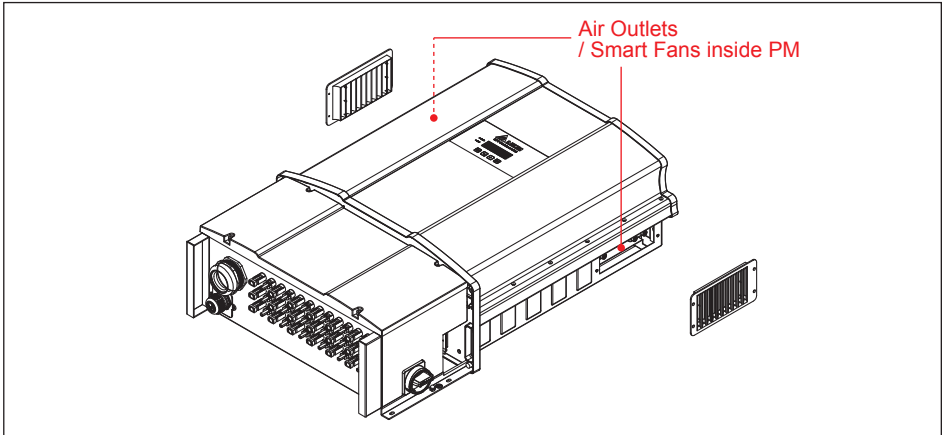

Figure 5-5 : Smart fans location on Power Module compartment
This section provides the instructions for smart fans replacement and filters cleaning for M88 series models. **Figure 5-5, 5-6, 5-7** illustrates the locations of smart fans.
M88 series models have smart fans that can be categorized into two parts: Wiring Box compartment (WB) and Power Module compartment (PM) as shown in the overview picture (**Figure 5-5**). The following procedure depicts the steps to clean the filters.